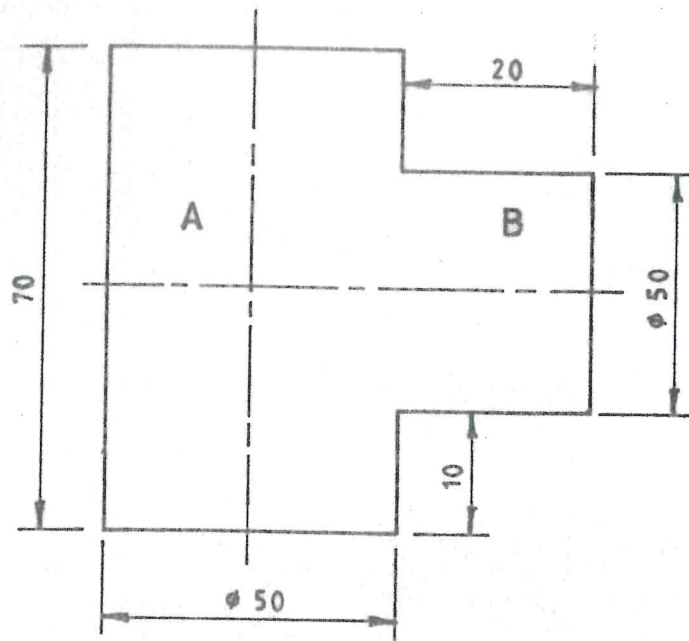

Fig. 4
7. Figure 4 shows an elevation of two intersecting cylinders.